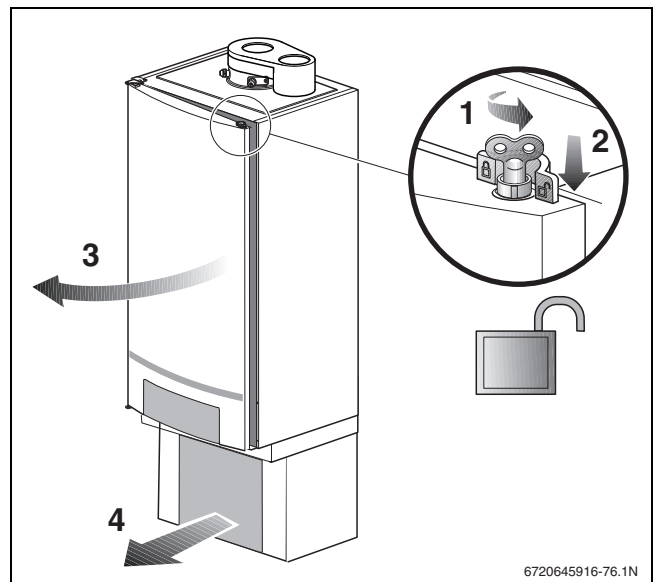

Fig. 79 Opening the boiler door
- Turn the vent key through a quarter rotation to undo the boiler door lock (→ fig. 79, step 1).
- Push the fastener down (→ fig. 79, step 2) and open the boiler door.